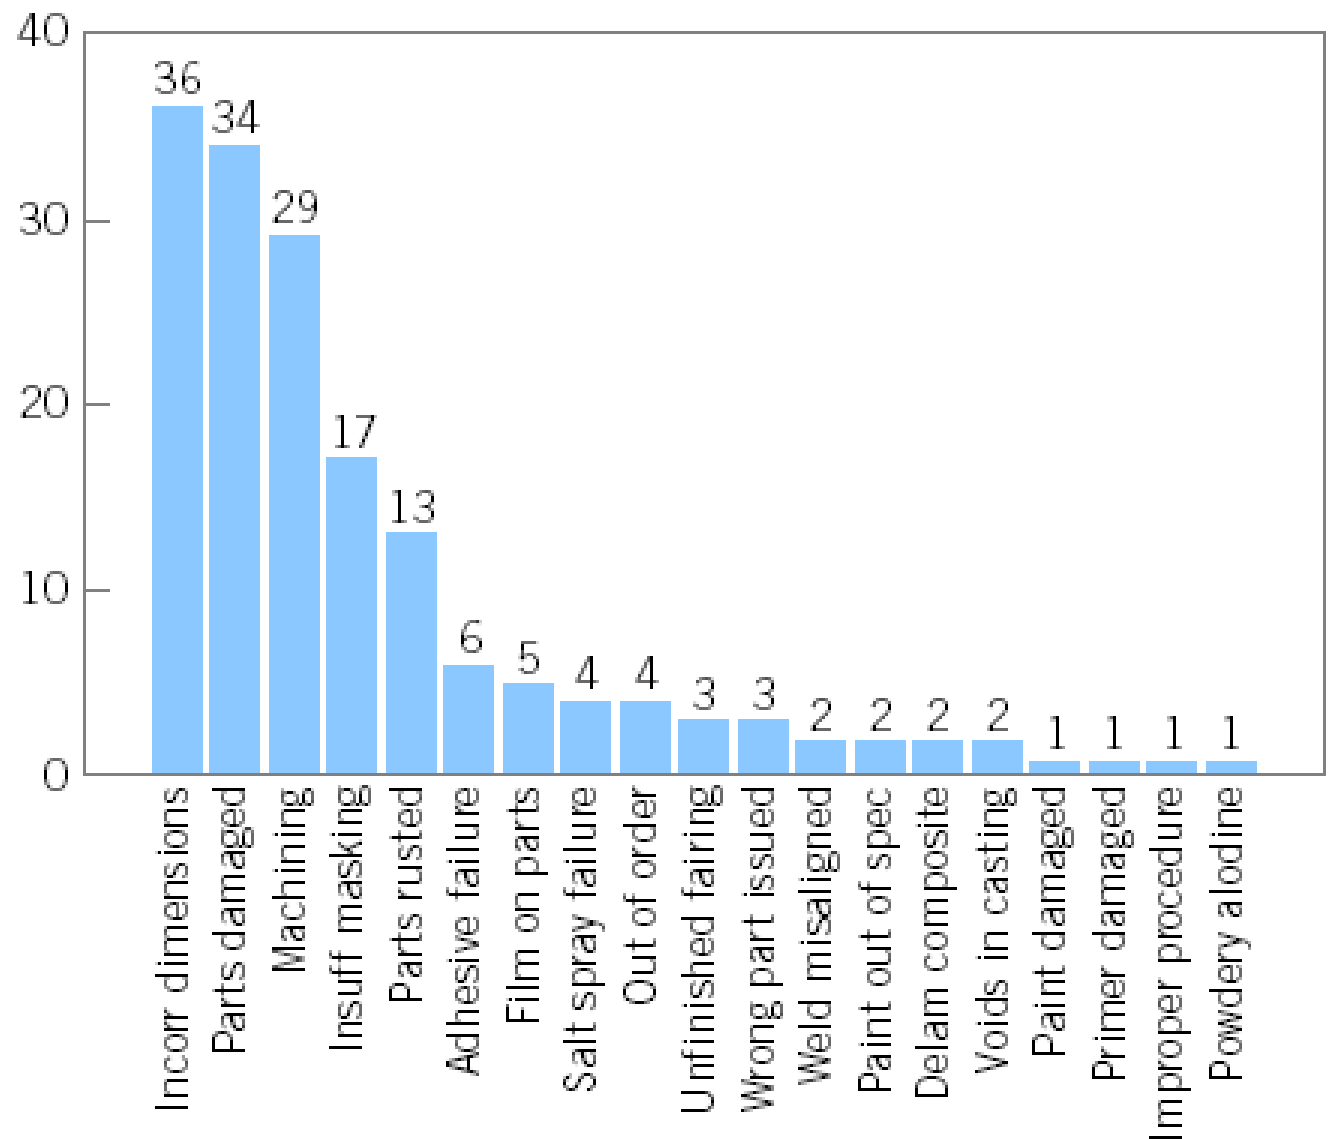

Figure 4-17 Pareto chart of the tank defect data.
- See example for the tank defect data, Figure 4-17